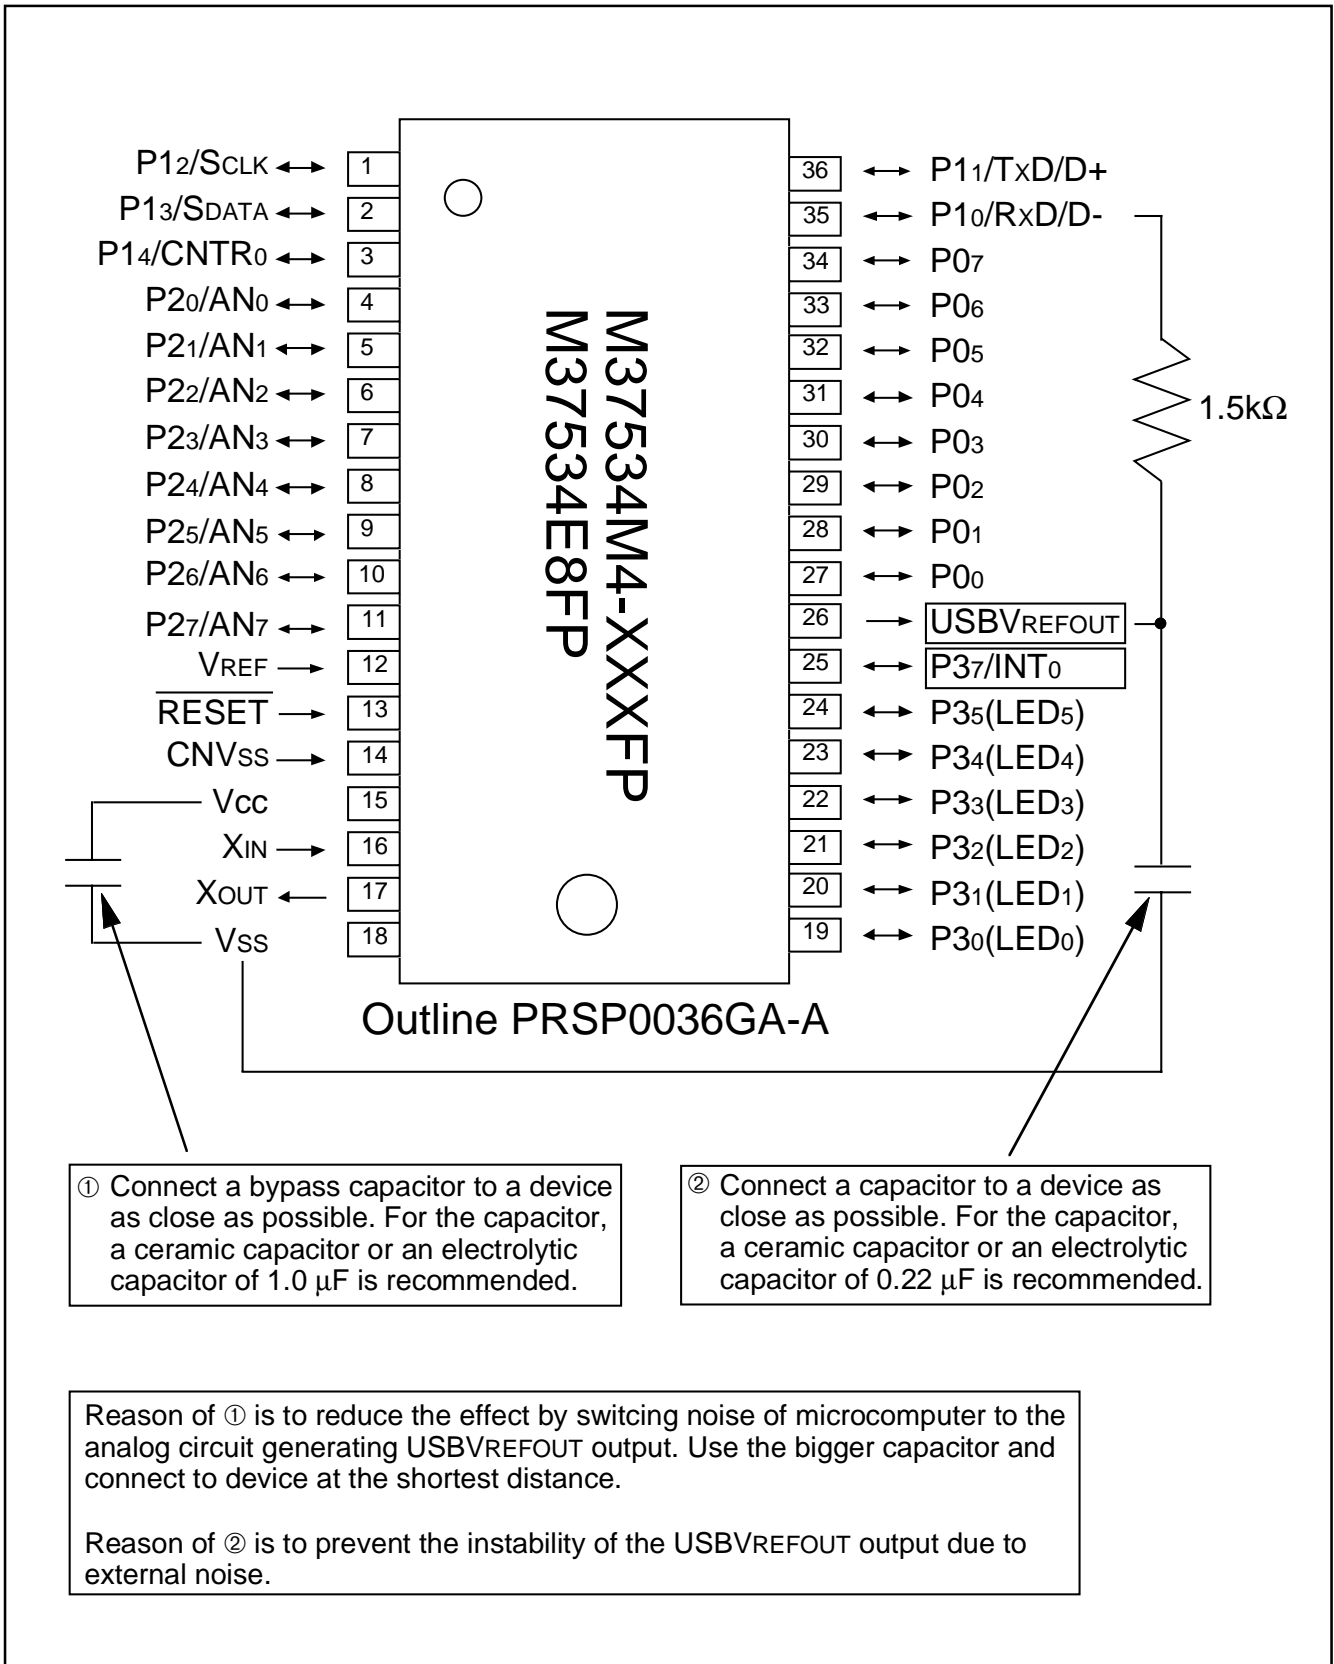

Fig. 53 Handling of Vcc, USBVREFOUT pins of M37534M4-XXXXFP, M37534E8FP
| 1.10 | Jun. 14, 2000 | 25834434448495051                      | package type revised; 32P6B-A → 32P6U-Apackage type revised; 32P6B-A → 32P6U-Apackage type revised; 32P6B-A → 32P6U-ADescription revised; RESET “L” pulse width 2 μs → 15 μsTable 11 revised; Absolute accuracy (excluding quantization error) → Linearity errorTable 12 revised; tw(RESET): 2 → 15Fig. 51 Description ①, ② revisedFig. 52 Description ①, ② and package type revised; 32P6B-A → 32P6U-AFig. 53 Description ①, ② revisedPackage outline revised; 32P6B-A → 32P6U-A   |